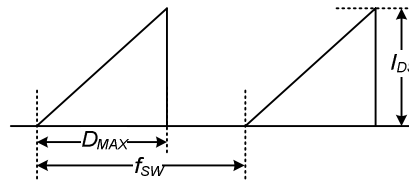

Figure 4. Repetitive Peak Switching Current
6. Repetitive peak switching current when the inductive load is assumed: Limited by maximum duty (DMAX=0.75) and junction temperature (see Figure 4).